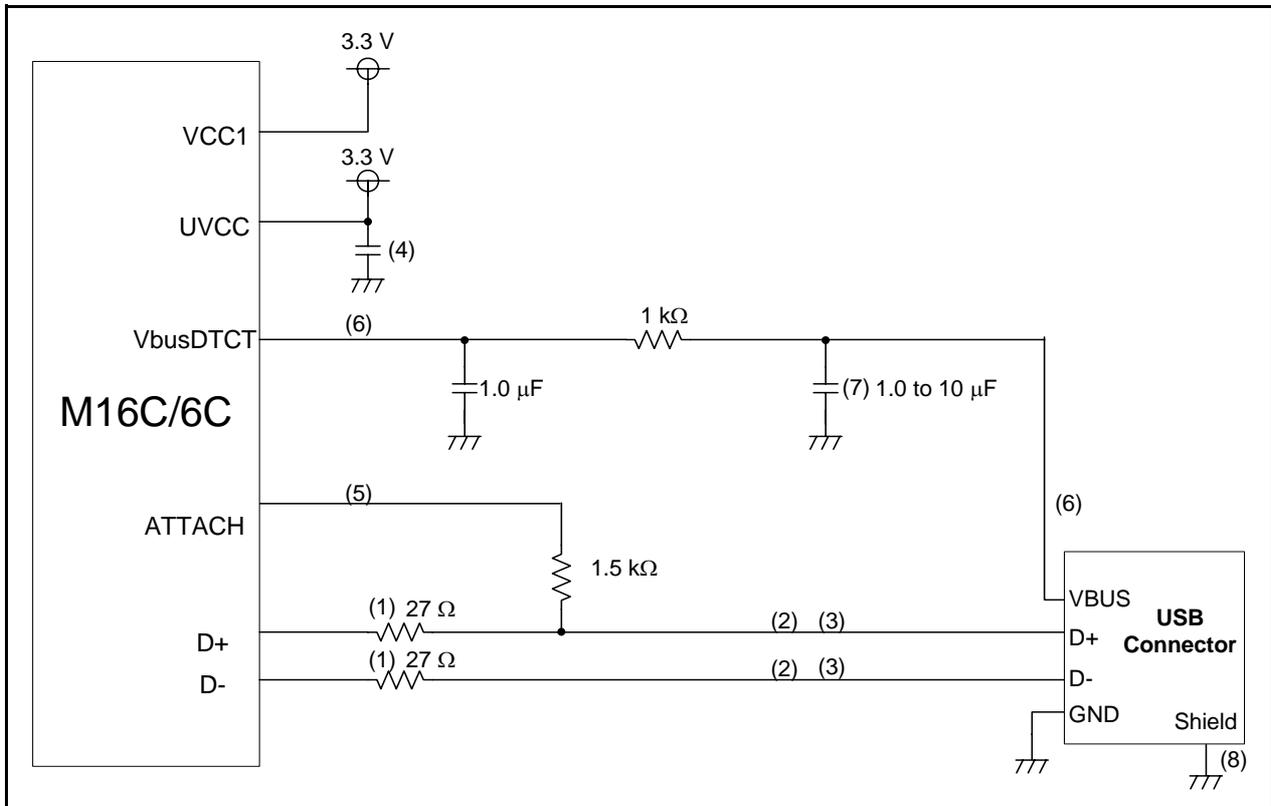

Figure 3.1 Self-powered Mode Circuit (3.3 V)
Figure 3.1 shows an example of a Self-powered Mode Circuit (3.3 V).
Note the items below when using a self-powered mode circuit (3.3 V). Numbers (1) to (8) correspond to (1) to (8) in Figure 3.1.
(1) Series resistors on D+/D- lines